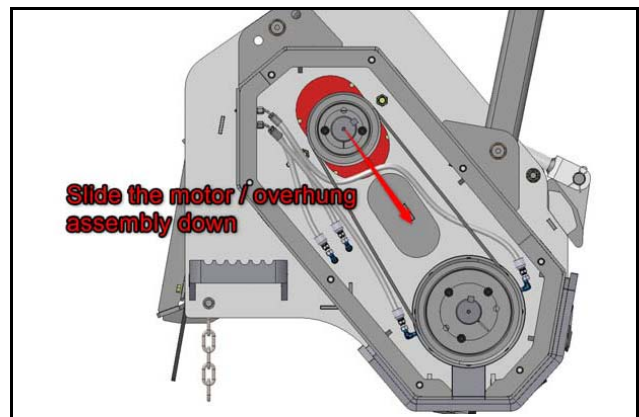

Figure 14
6. Slide the motor / overhung assembly down and remove belt [Figure 14].